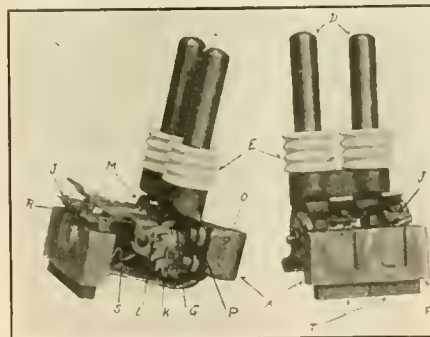

FIG. 31. BRUSH HOLDER.
important parts of the railway motor and the general construction is shown by Fig. 31. As the name implies, this part of the motor is to carry the brush "T" which is in contact with the commutator and through which current flows into and out of the armature coils. Brushes are blocks of carbon or graphite which fit the holder "A" snugly but not tightly. The brushes can move up and down vertically but should not be loose in the holder.
A. Yes. These brush-holders must be exactly located so as to bring the brushes to exactly the neutral points. To secure this, the clamps which hold the brush-holders are located by template. At the same time these holders must be insulated from the clamps and this is done as follows:—Referring to Fig. 31 the main casting (A) is fitted with two rods about  $\frac{3}{8}$  in. to  $\frac{1}{2}$  in. diameter, over which are placed mica tubes. To protect this insulation a thin brass tube (D) is placed over the mica. Just previous to assembling the brass tubes the corrugated porcelain insulators (E) are put in place and the whole sealed by an insulating compound. The corrugated insulators are to increase the creepage distance from the holder, which has the full voltage, to the brass sleeves which is ground. With this method of clamping the whole holder can be moved up and down and proper clearance obtained between the commutator and the face (F).
A. To get proper contact between the brushes and the commutator it is necessary to maintain a pressure on the brushes. This is accomplished by the spiral clock spring (G) made of phosphor bronze or of spring steel, which transmits its pressure to the brush through the hammer (J). Different pressures are required for different conditions and the spring tension can be adjusted by the ratchet (K) and pawl (L). To prevent heating of the spring, and thus loss of tension, a copper braid, called a shunt (M) is provided which conducts the current around the spring or shunts it. One end of this shunt is fastened to the hammer by the rivets (R) and the other to the main holder by rivets (S). The wire which carries the current to the holder